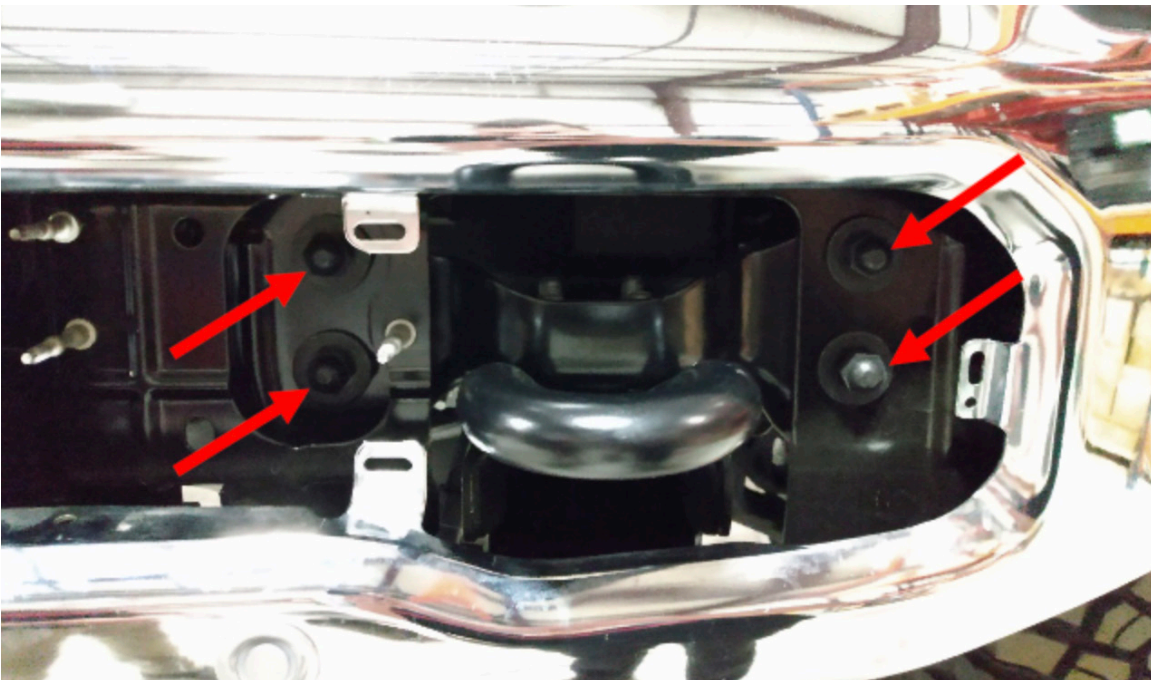

Figure 6
6. Using an 18mm socket wrench, remove the eight (8) bolts that attach the bumper to the tow hook brackets. Figure 6